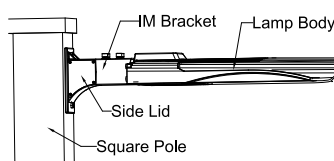

Figure 4
2. Let the power cable in the front part of the IM bracket go through the back part. Sheath the front part to the back part and fix them with top bolt. Connect the power cable with back part, Close the side lid and tighten it, (Figure 4) then finish installation.